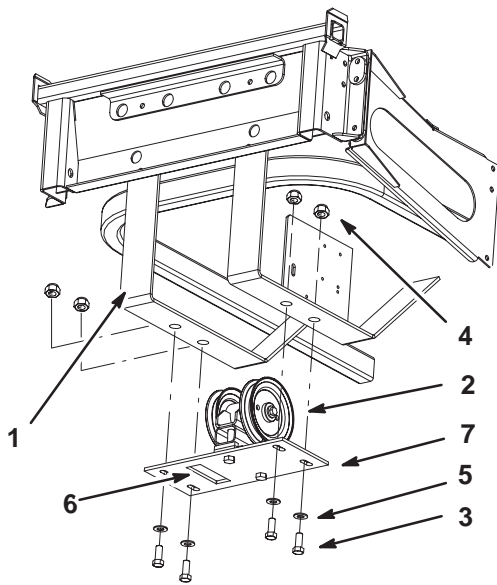

Figure 11
2. Remove the existing drive pulley assembly from the machine (Fig. 11).
Note: Make sure the cut-out in the pulley plate is on the left-hand side of the machine (Fig. 11). This cut-out allows room for the mower spring loaded idler pulley.
8. Install the pulley assembly under the rear frame, and loosely install 4 bolts (1/2 x 1-1/4 inch), 4 washers (1/2 in.) and 4 locknuts (1/2 inch) (Fig. 11). **Do not tighten bolts now.**
1. Push the drive pulley assembly all the way forward and then rearward a 1/4 inch (6 mm) (Fig. 11).
2. Tighten the 4 bolts (1/2 x 1-1/4 inch), 4 washers (1/2 in.) and 4 locknuts (1/2 inch) (Fig. 11).
1. Pull the drive pulley assembly all the way rearward and then forward a 1/4 inch (6 mm) (Fig. 11).